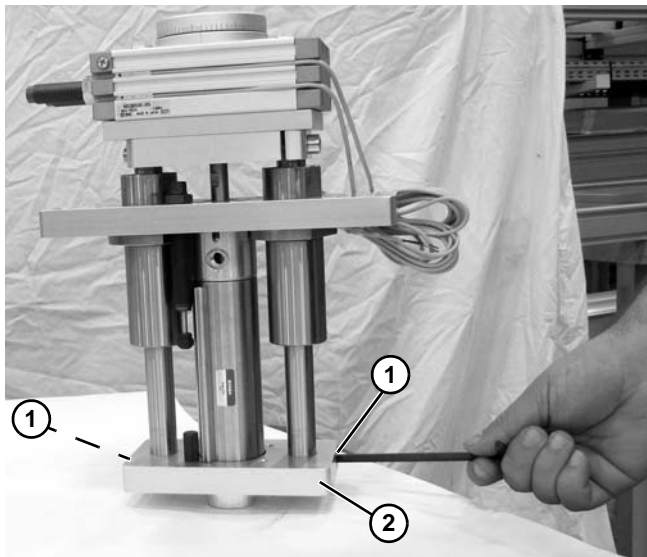

**Figure 17**
1. To adjust cylinder stroke sensors, loosen set screw (**Figure 17, item 1**) and move sensor (**Figure 17, item 2**) up or down in channel (**Figure 17, item 3**). Tighten set screw.